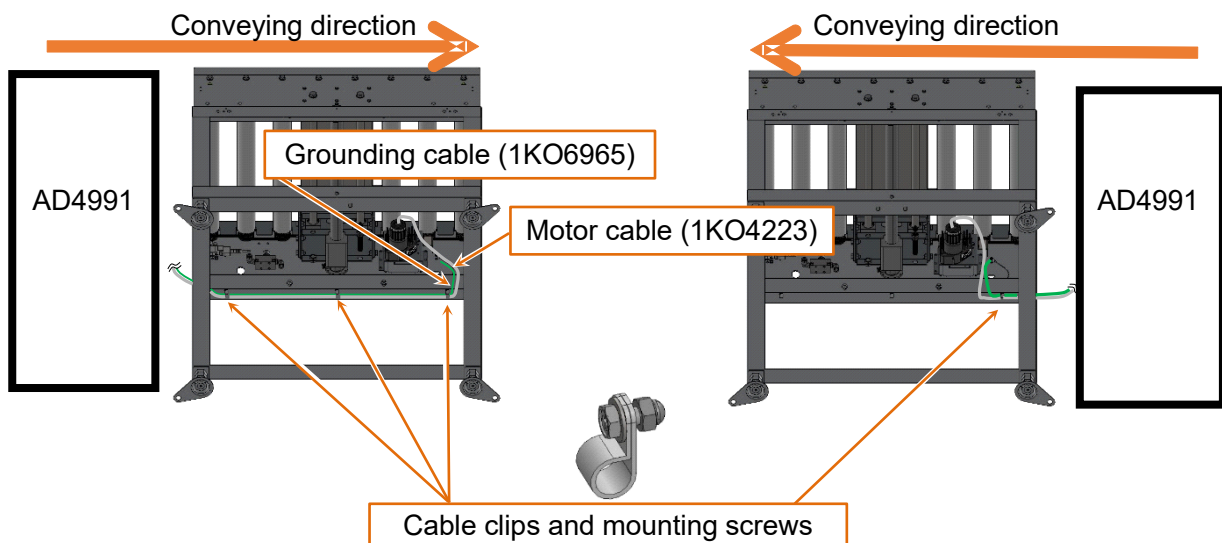

Fig 10 Wiring motor cable and grounding cable
2. Fix the motor cable (1KO4223) and grounding cable (1KO6965) using 7 mm wrench with accessory cable claps and mounting screws. Base frame has 3 holes to pass cables. Fix cable at proper position like fig. 10 so as to adapt to the AD-4991 series.